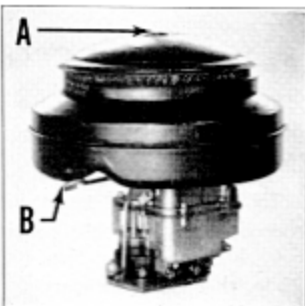

Figure 16
1. Remove wing nut (A) at top of cleaner (Figure 16) and lift off gauze unit.